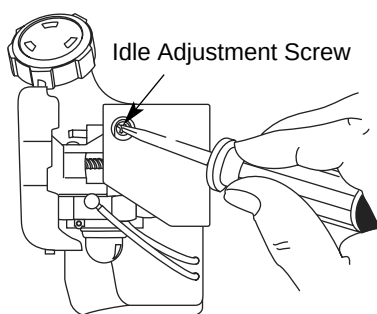

Fig. 33
The idle speed of the engine is adjustable. An idle adjustment screw is reached through a hole in the top of the engine cover (Fig. 33).
2. Release the throttle trigger and let the engine idle. If the engine stops, insert a small phillips into the hole in the air filter/muffler cover (Fig. 33). Turn the idle speed screw in, clockwise, 1/8 of a turn at a time (as needed) until the engine idles smoothly.